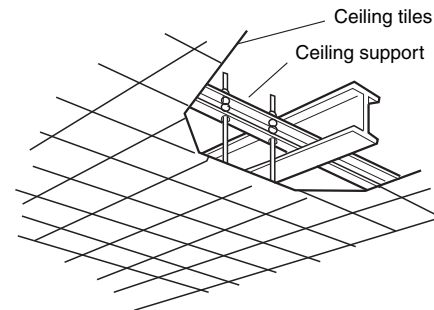

Fig. 3-87
- Use existing ceiling supports or construct a suitable support as shown in Fig. 3-87.